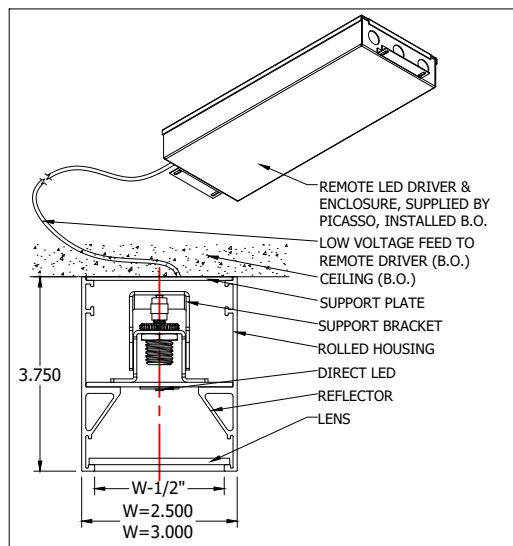

Fig. 3 Installed section details.
1. Surface mounted Anello fixtures come with width (W) 2-1/2" or 3". Standard sizes are 3', 4', 5', and 6' nominal diameter. These fixtures come as fully assembled ring. Custom sizes larger 6' come in the segments and have to be assembled before installation. Fixture with (3) or more segments might be assembled within the ceiling proximity if condition permitted. All surface mounted fixtures (Fig. 3) to have remote mounted enclosure with LED driver(s) unless otherwise requested. See submittal drawing for details.